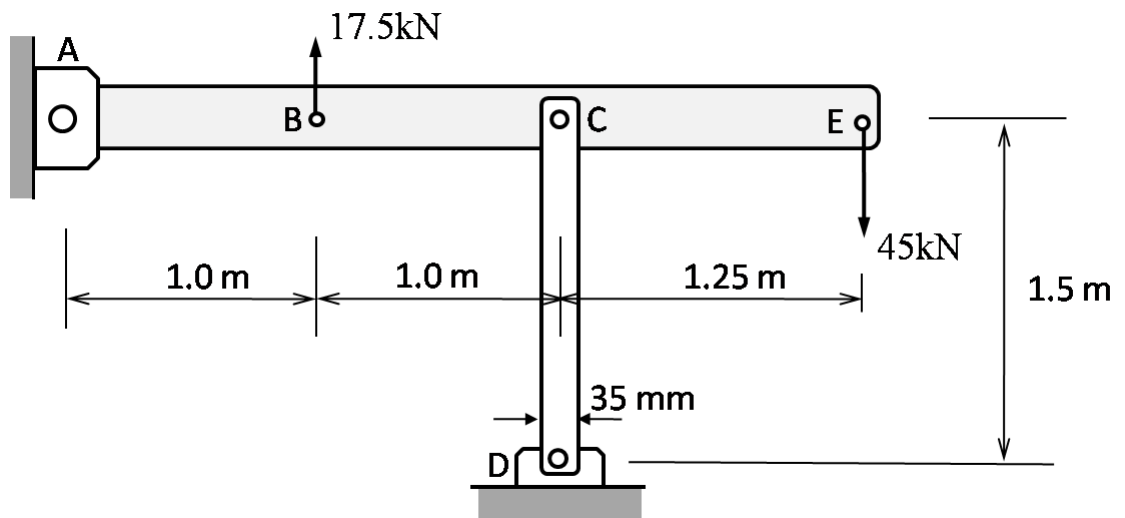

Figure 4 / Rajah 4
- (b). **Figure 4** shows a rigid horizontal beam ABCE which is supported by a pair of rectangular bar CD at C. Points A and D are pinned supports. The cross-sectional size of each of the rectangular bar is 35 mm \times 12.5 mm. Modulus of elasticity of the bar is $E=125$ GPa. Vertical loads of 17.5 kN and 45 kN act at points B and E, respectively.